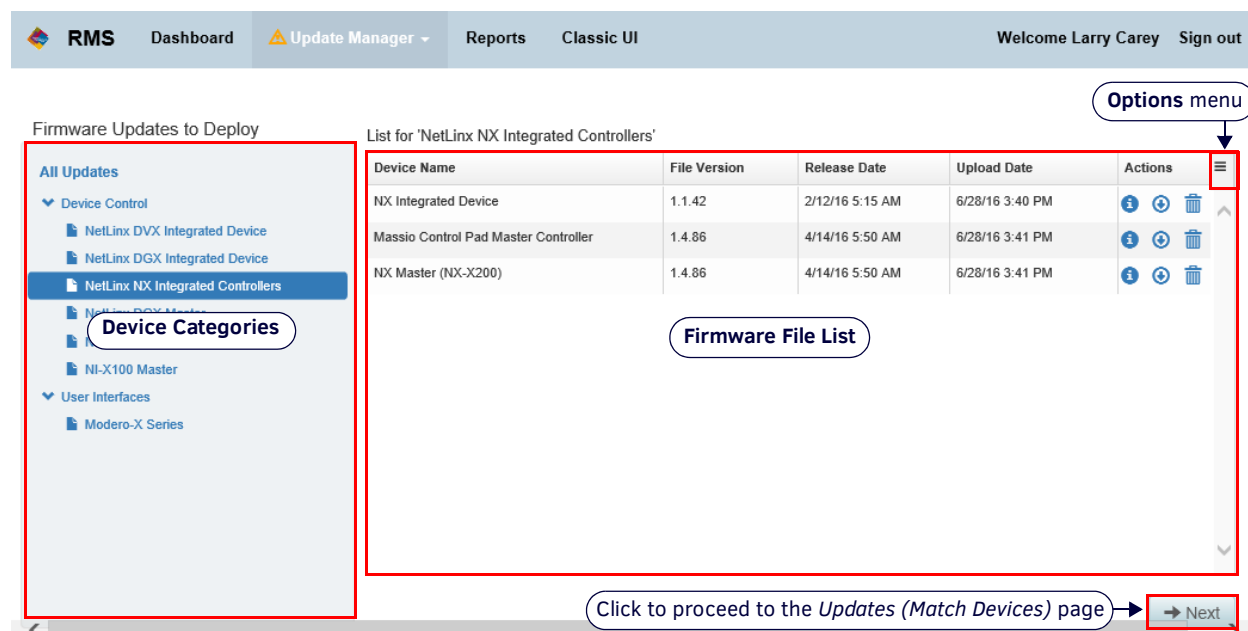
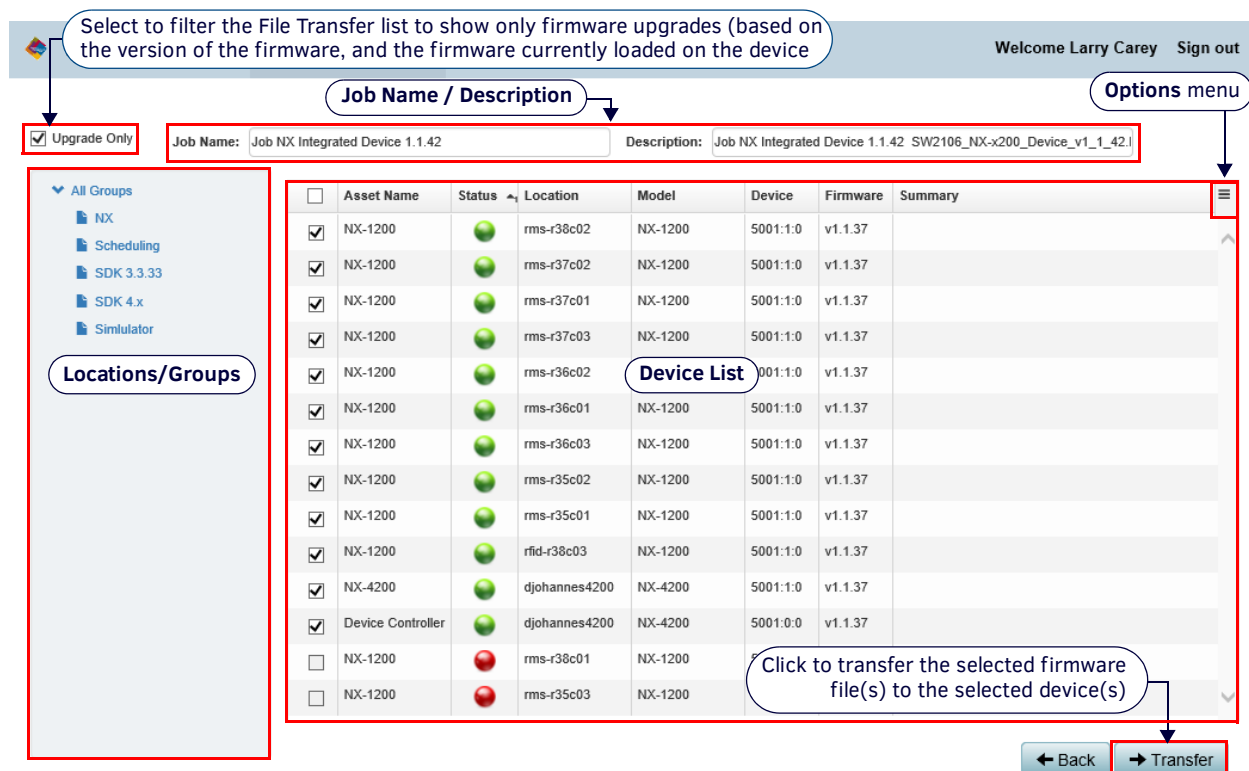

FIG. 26 Firmware Updates (Files) page
FIG. 27 Firmware Updates (Devices) page
- Select **Check for Updates** to open the *Firmware Updates - Files* page (see FIG. 26).
Select **Update Manager > Check for Updates** to open the **Firmware Updates (Files)** page (FIG. 26). This page displays all firmware updates found for the AMX devices in the RMS System, listed by file:
The *Actions* column in the *Firmware Updates (Files)* page (FIG. 26 on page 29) and the *File Manager (Files)* page (FIG. 28 on page 32) contains three icons that provide the following file functions:
Click the **Next** button in the **Firmware Updates - Files** page (see FIG. 26 on page 29) to access the **Devices** page (FIG. 27). This page lists potential target system devices for the selected firmware file, based on the device type associated with the firmware file: